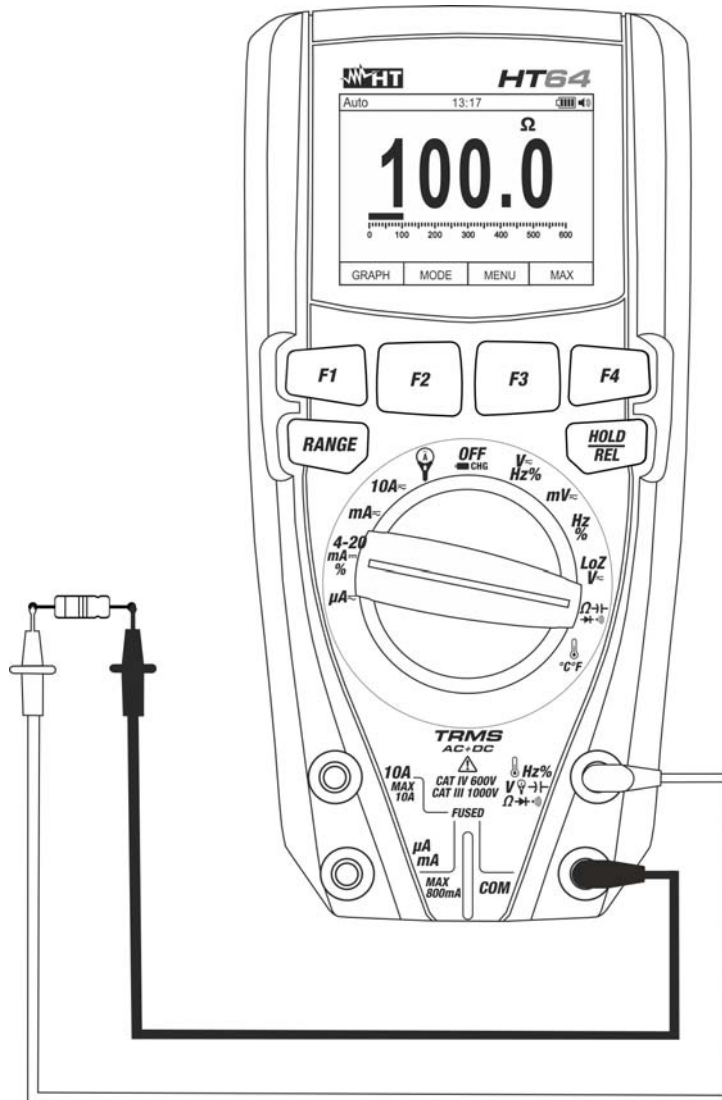

Fig. 26: Use of the instrument for resistance measurement and continuity test
3. Position the test leads in the desired spots of the circuit to be measured (see Fig. 26). The display shows the value of resistance.